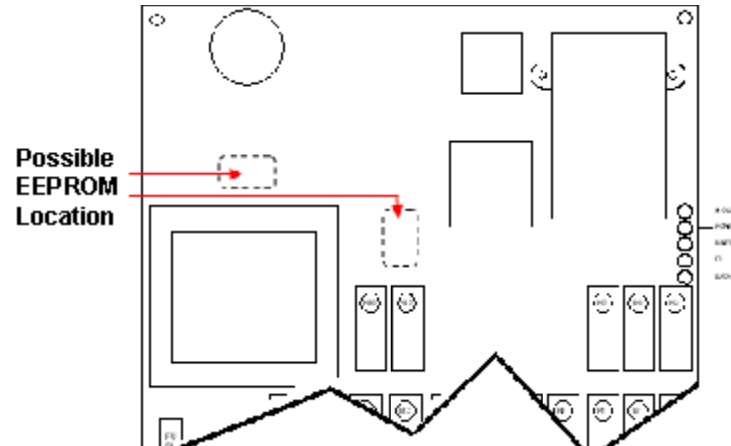

Figure 10. Receiver EP70 Module Location
1. Remove the cover from the receiver and pull the EP70 from its location by grasping the module by its edges—avoid touching the actual component beneath—and lift the module from its pins by pulling away from the component board. See Figure 10 below for possible EEPROM location.